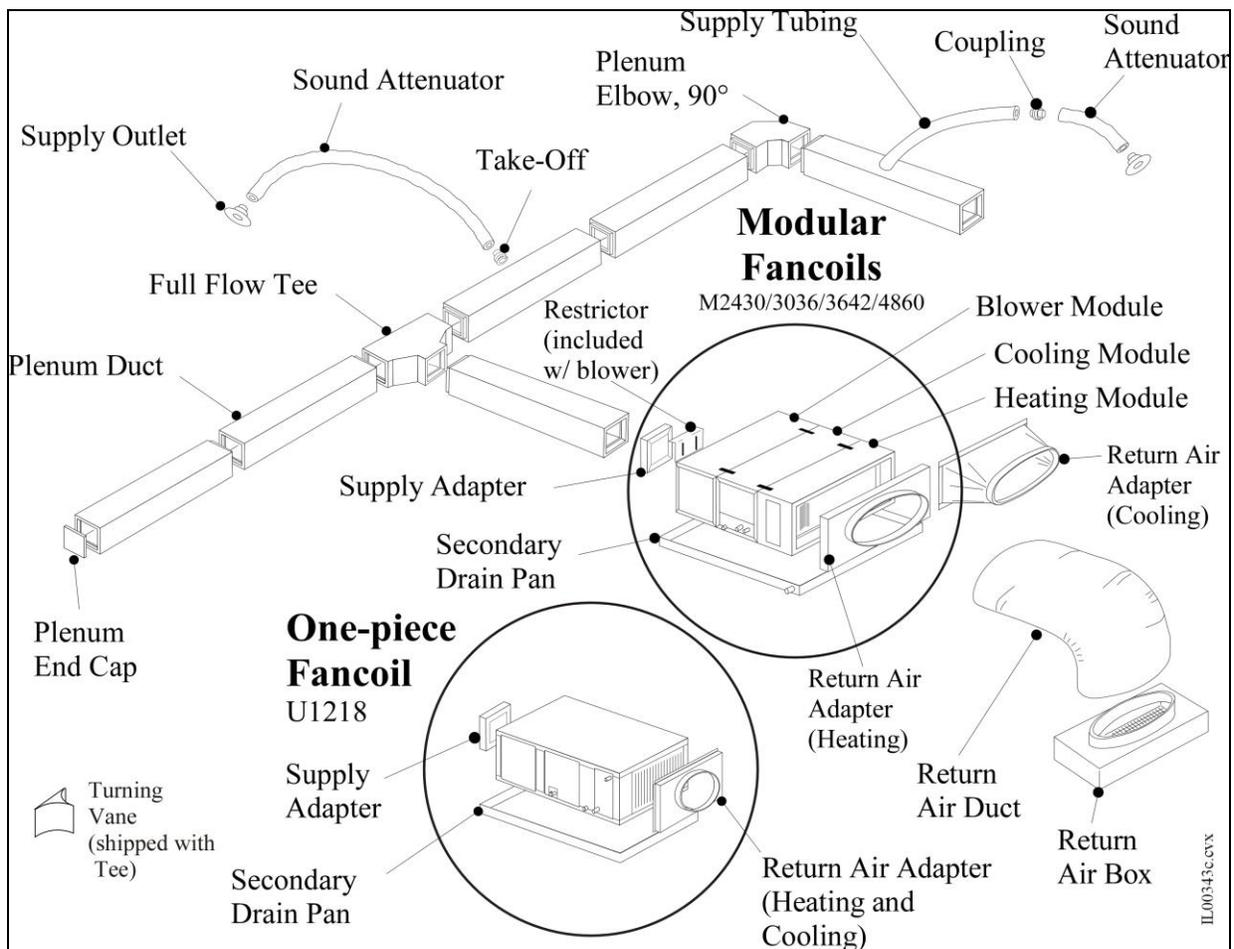

Figure 1. Air Distribution System Components (fiberglass duct board plenum shown)
**General.** Most Unico Systems are installed in attic or overhead installations. However, give consideration to basement or other suitable conditioned space locations, especially since the Unico System air handlers can be installed in vertical as well as horizontal configurations. These instructions are primarily oriented to horizontal installations (as shown in Figure 1) but, where appropriate, reference will be made to other possibilities.
These installation instructions cover the Unico System air distribution system including the return air components and secondary drain pans as shown in Figure 1. This manual describes only the installation of the duct components. Details for wiring, piping, refrigerant line connections and condensate drains are covered in the installation instructions for the specific models and accessories.